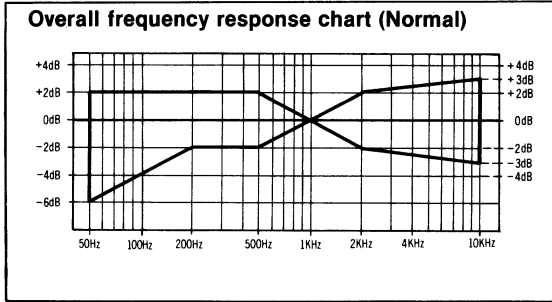
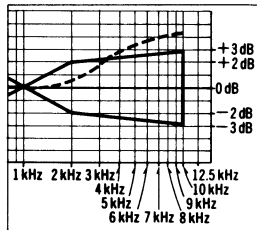
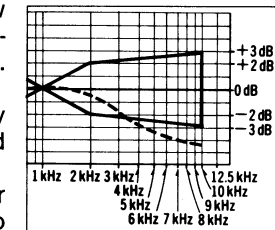

Fig. 10
Fig. 12
Fig. 13
- Playback the signals recorded in step 5, and check if the frequency response curve is within the limits shown in the overall frequency response chart for normal tapes (fig. 10). (If the curve is within the charted specifications, proceed to steps 7, 8 and 9.)
When the curve exceeds the overall specified frequency response chart (fig. 10) as shown in fig. 12.
- Repeat steps 5 and 6 for confirmation (Proceed to steps 7, 8 and 9 if the curve is now within the charted specifications as shown fig. 10.)
- If the curve still exceeds the specifications (fig. 10), increase bias current further and repeat steps 5 and 6.
When the curve falls below the overall specified frequency response chart (fig. 10) as shown in fig. 13.
- If the curve still falls below the charted specifications (fig. 10), reduce bias current further and repeat steps 5 and 6.